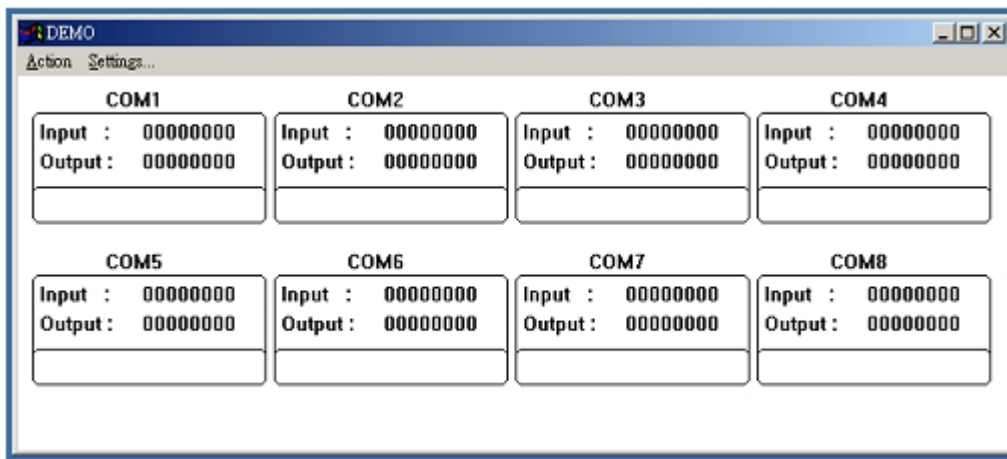

Fig.5
Step1.Run the “DEMO.EXE” utility (See the Figure 5).